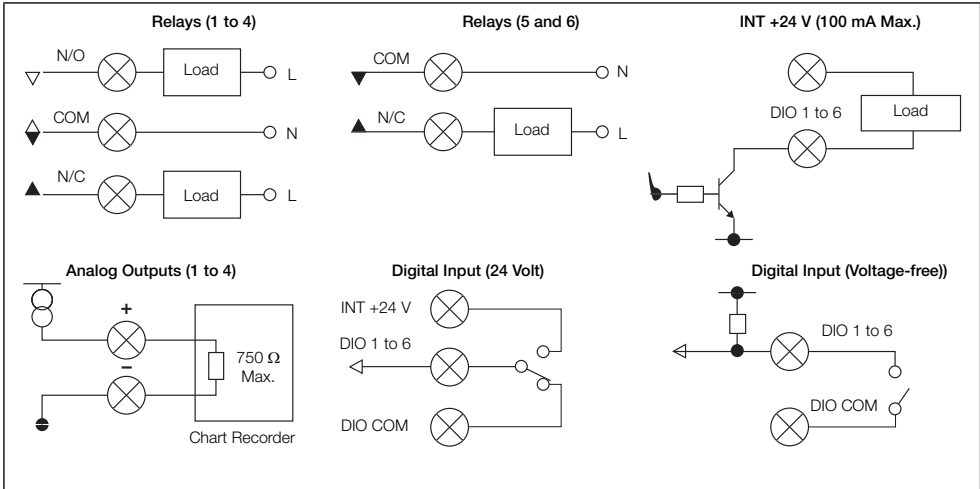

Fig. 4.21 Digital Input / Output, Relays and Analog Output Connections – CMF310 Controllers
**Note.** Digital input / output, relays and analog output connections for CMF310 controllers are shown in Fig 4.21 – see page 102 for Digital Input / Output type options.